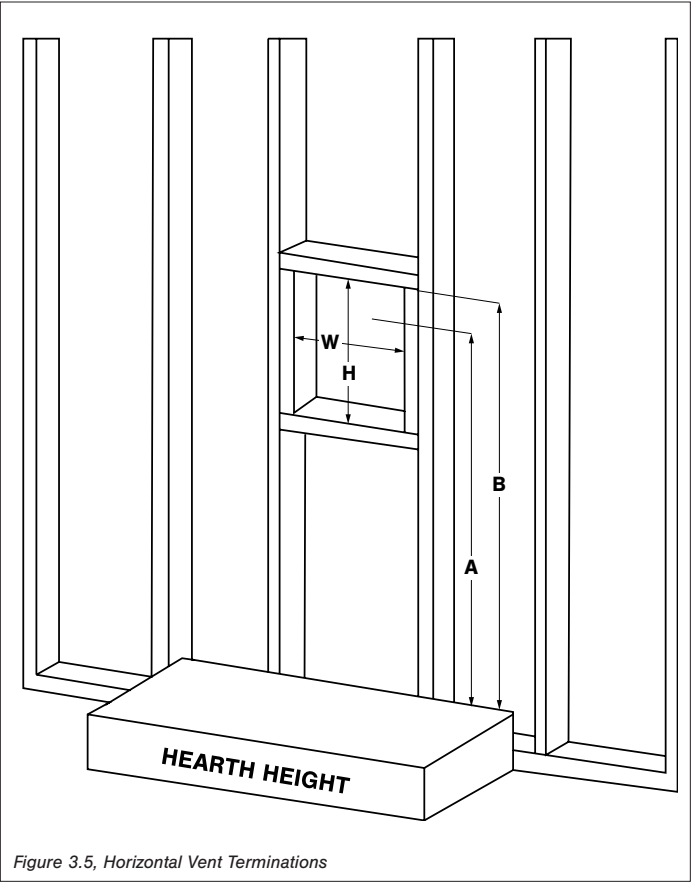

Figure 3.5, Horizontal Vent Terminations
- Refer to Table 3.2 and Figure 3.5 for horizontal vent framing.